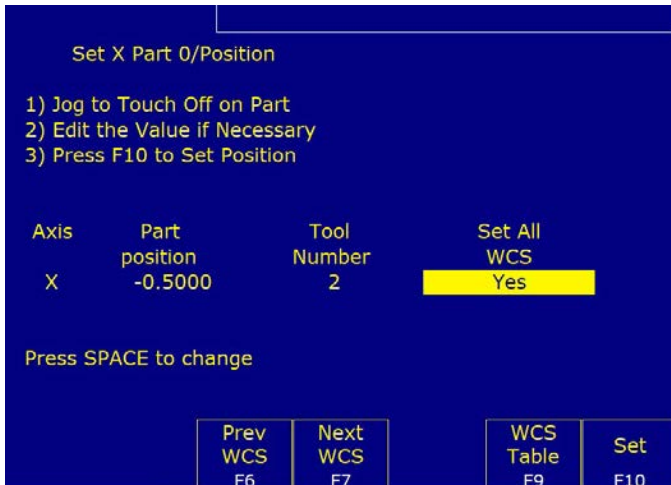

FIGURE 12
7. We set the “Set All WCS” to “Yes.” In order to change from No to Yes, press the space bar (see Figure 12). Then, click on Set F10.